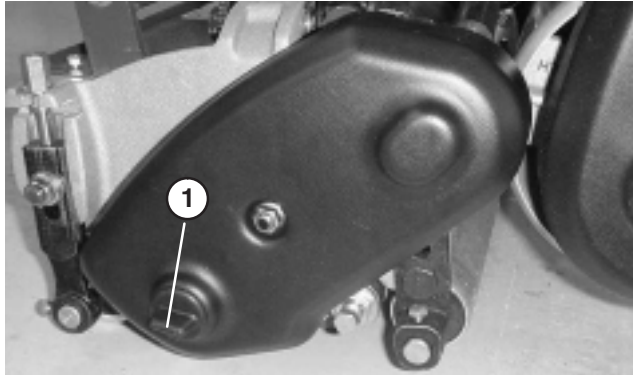

Figure 52
1. Remove plug from the reel drive cover on the left side of reel assembly (Fig. 52)